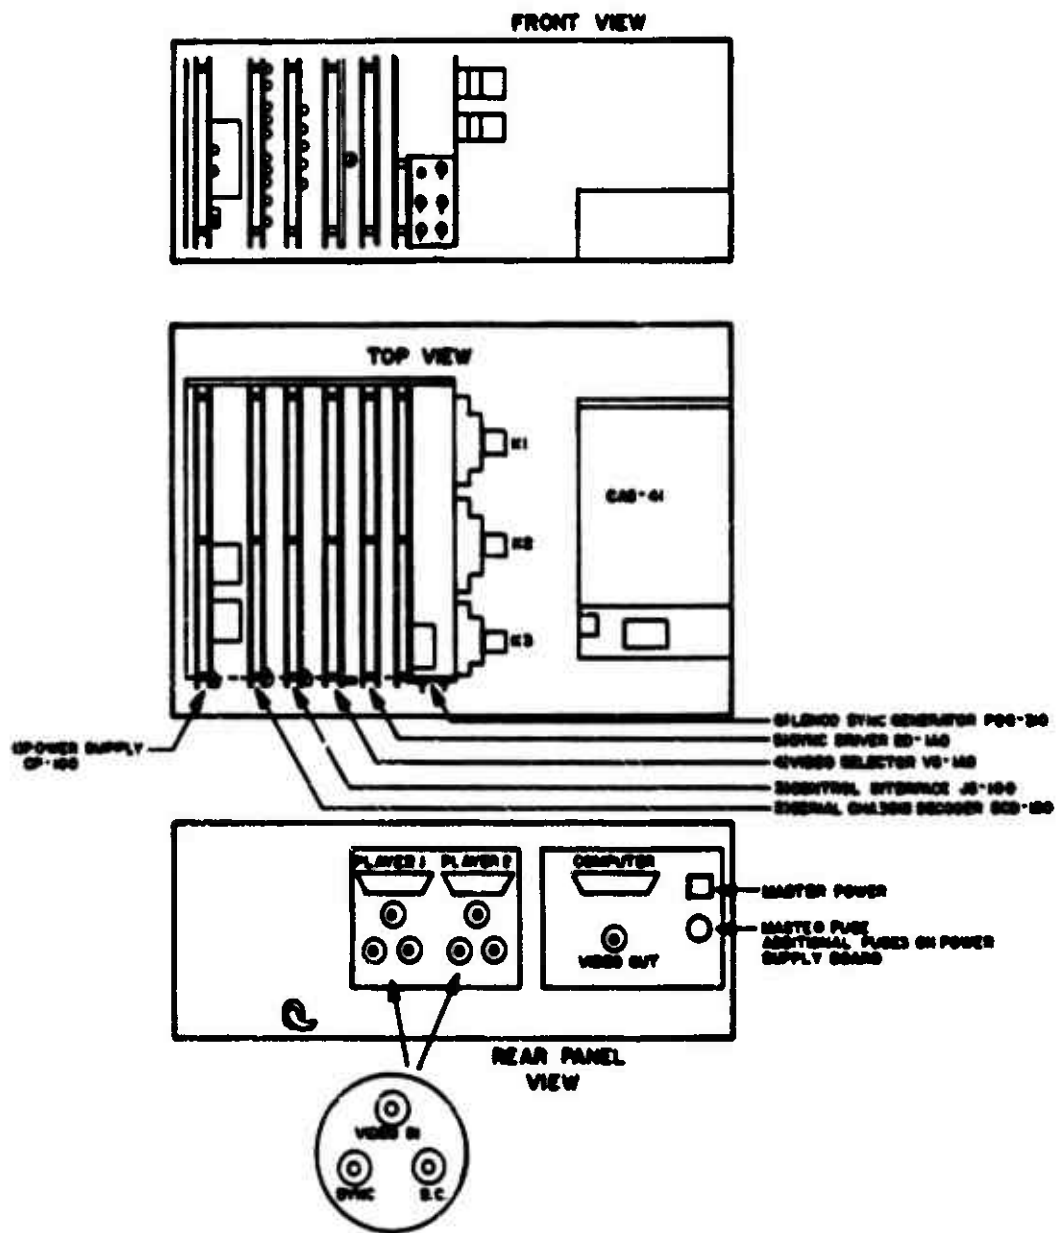

Figure 2-4. ATR INTERFACE UNIT PHYSICAL LAYOUT
Figure 2-4 shows the physical layout of the Interface Unit. There are three major sections, the logic rack containing six circuit cards plugged into a motherboard, the CAS-41 RS-232 selector and the relays, K1 through K3, which make up the Bypass Module.
2.2.4.8 Bypass module - The bypass module switches the ATR System between the full configuration and the MicroTICCIT workstation configuration. It consists of three DPDT relays, two for serial switching and one for video. These are 12 Volt relays which draw their power from the CP-100 power supply. They are shown as K1, K2 and K3 on Figure 2-4.